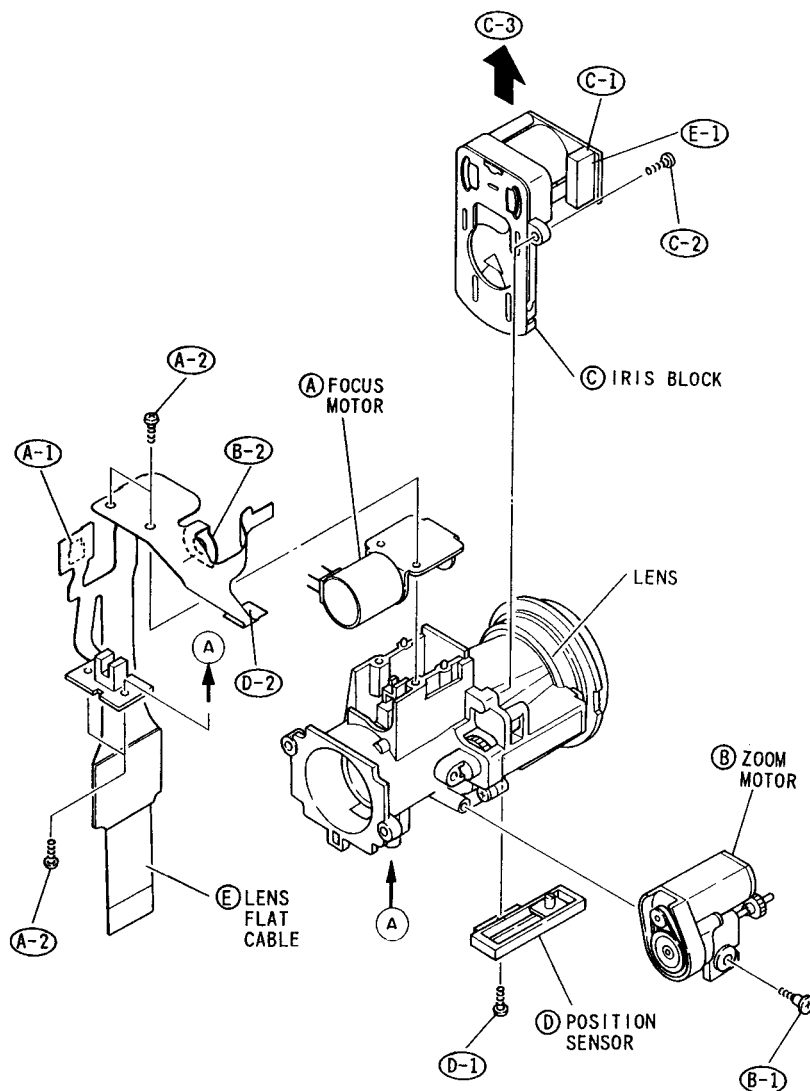

Fig. 3-8
A. Focus Motor (Fig. 3-8)
- 1) Unsolder four (4) points.
- 2) Remove two (4) screws.
B. Zoom Motor (Fig. 3-8)
- 1) Remove one (1) screw.
- 2) Unsolder two (2) points.
C. Iris Block (Fig. 3-8)
- 1) Disconnect one (1) flat cable.
- 2) Remove one (1) screw.
D. Position Sensor (Fig. 3-8)
E. Lens Flat Cable (Fig. 3-8)